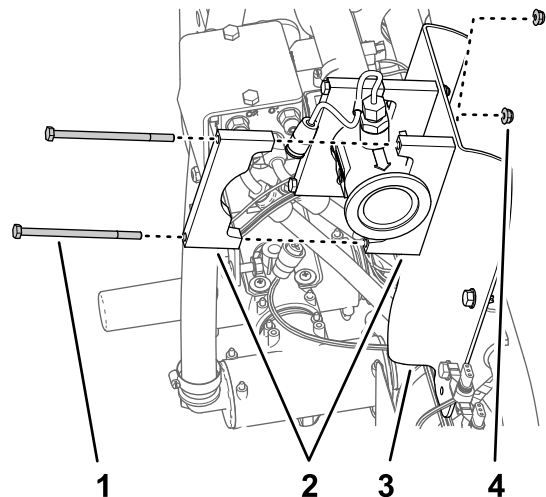

Figure 73
3. Align a 2 support-clamp halves between the flow meter and the flow-meter bracket, and align the holes in the clamp halves with the holes in the bracket (Figure 73).
4. Align a support clamp half at the rear side of the flow meter with 1 of the clamp halves that you assembled in step 3 (Figure 73).
5. Assemble the pair of clamp halves to the flow meter bracket (Figure 73) with 2 bolts (1/4 x 4-1/2 inches) and 2 flange locknuts (1/4 inch).